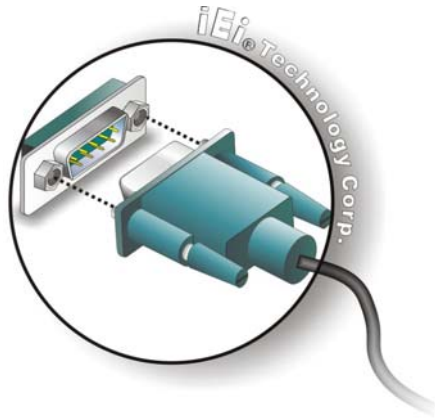

Figure 2-9: Serial Device Connector
Step 2: Insert the serial connector. Insert the DB-9 connector of a serial device into the DB-9 connector on the bottom panel. See Figure 2-9.